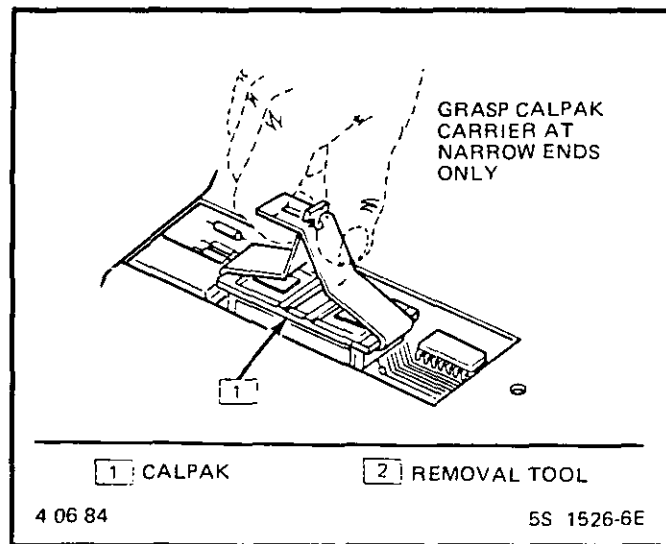

Figure C1-11 Removing CALPAK
3. Using the removal tool, pictured in Figure C1-11 grasp the CALPAK carrier at the narrow ends. Gently rock the carrier from end to end while applying a firm upward force and remove the CALPAK and carrier. Use of unapproved CALPAK removal tools or methods will cause damage to the CALPAK or CALPAK socket.